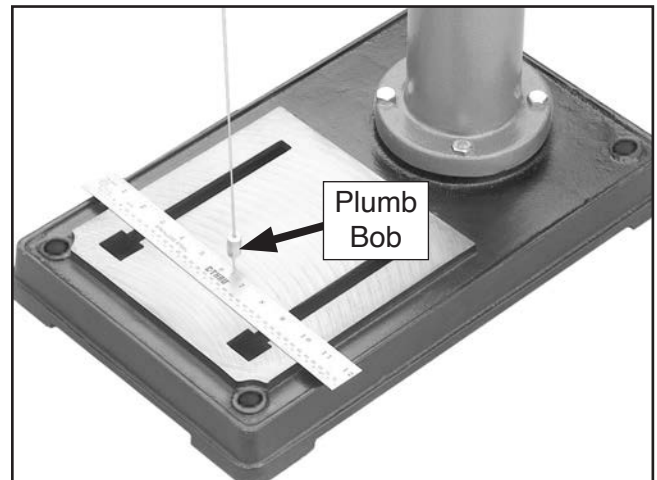

Figure 20. Example of aligning headstock with center of base.
4. Use measuring tape or ruler to find and mark center of base, then suspend plumb bob from center of headstock spindle over base, as shown in **Figure 20**.